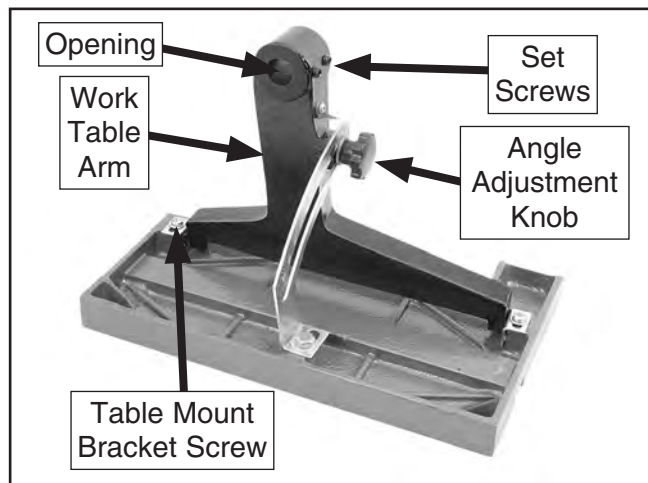

Figure 33. Location of set screws on work table arm.
- Loosen the two set screws on the work table arm so their ends are flush with the inside of the opening, as shown in **Figure 33**.
- Loosen the angle adjustment knob on the work table (**Figure 33**), tilt the table to the 0° mark, then tighten the knob.
—If the gap between the work table and the sanding disc is not the same on both sides, loosen one of the table mount bracket screws (see **Figure 33**), adjust the table as needed to even the gap, then tighten the screw.